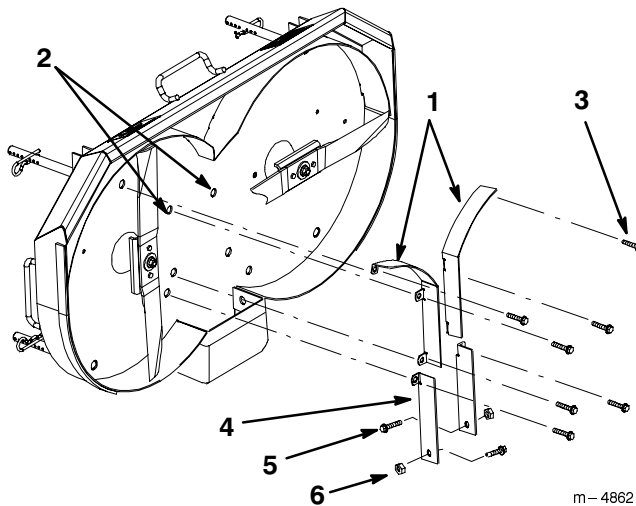

Figure 40
2. Remove cap screws, left and right bagger baffles locknuts, carriage bolts, and left and right discharge baffles from the mower (Fig. 40).
3. Position the left and right front bagger baffles inside the mower and secure with capscrews into the retainer nuts (Fig. 40).
4. Position the left and right rear discharge baffles inside the mower. Secure with cap screws through the bottom and carriage bolts inside of mower rear discharge. Secure carriage bolts with locknuts (Fig. 40).